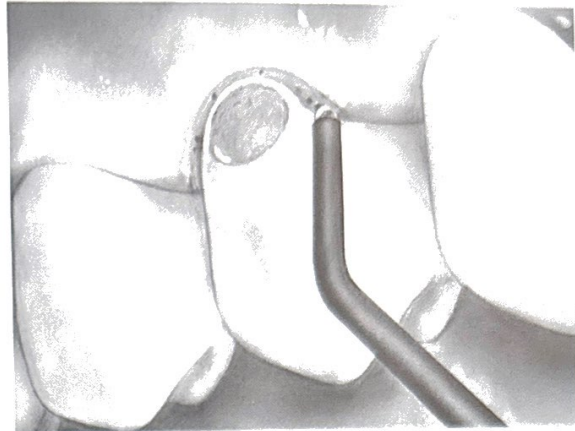

Figure 2.
4. Touch the bleeding area intermittently with the electrode (Figures 2 and 3). Duration of contact should be approximately 1 second, with a 10-15 second pause between contacts. Bleeding cessation indicates a successful coagulation. One or two applications of the electrode is usually sufficient to stop bleeding.